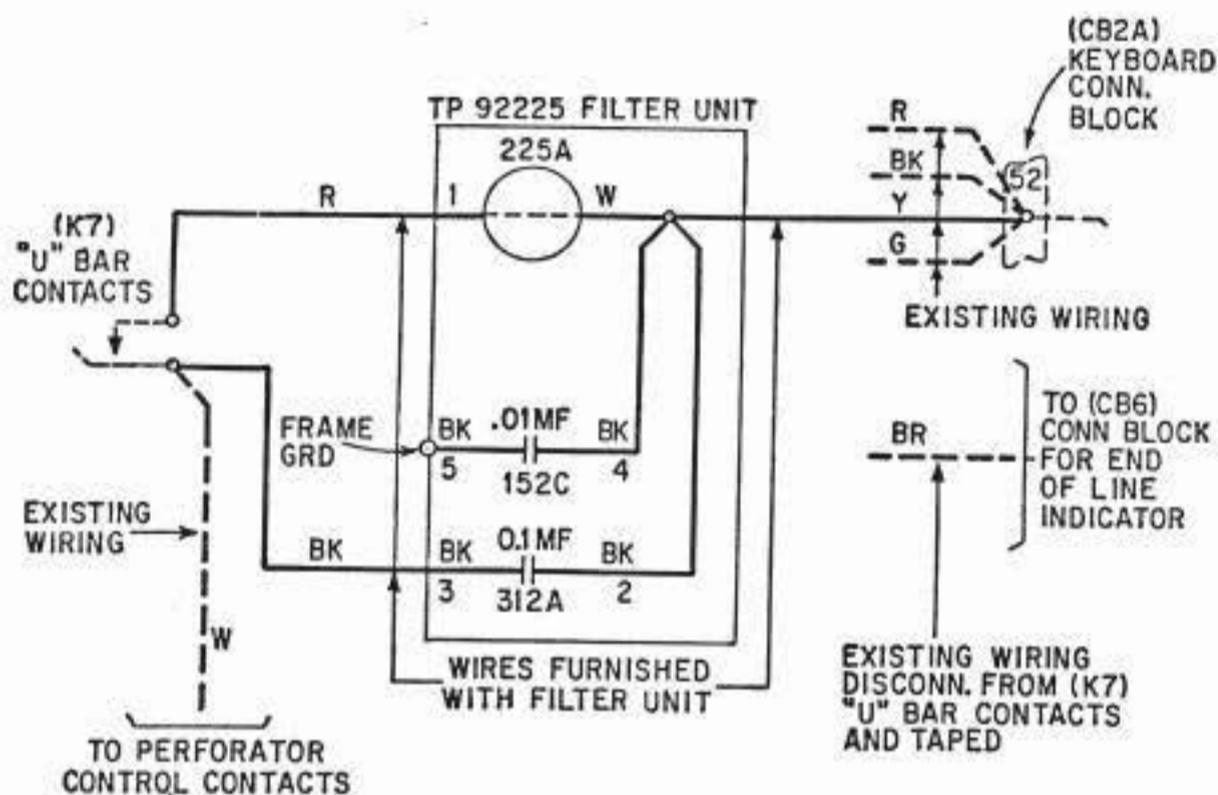

Fig. 1
2.02 Refer to Fig. 1 and connect the filter unit as follows: